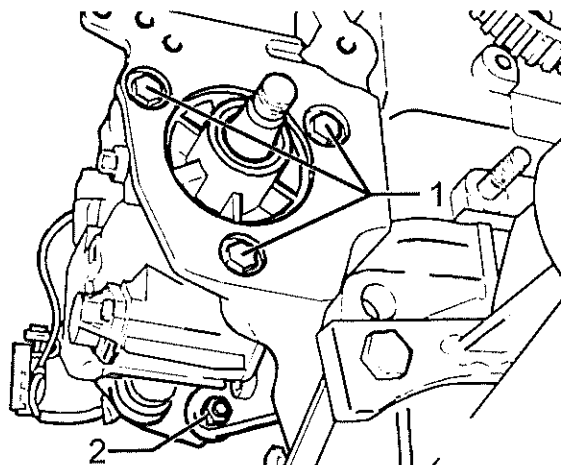

Fig 22 Injection pump securing
33 Unscrew the securing screws (see Fig 22 (1)) and the tapered nut (2) from the bracket.
- 37 Tighten the securing screws (see Fig 22 (1)) and tapered nut (2) to 25 Nm torque.